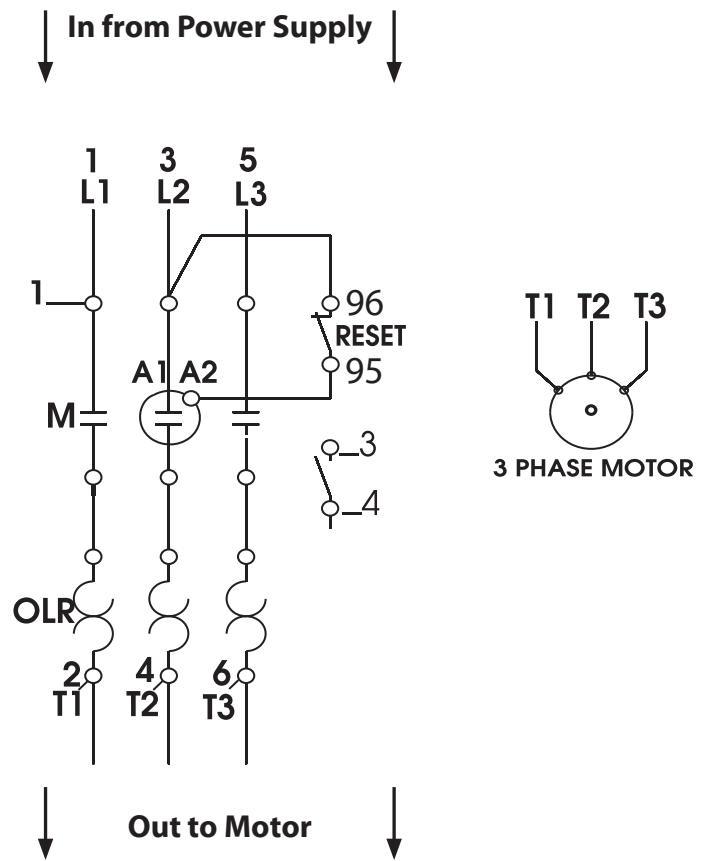

FIG. 4
- 4** Customer will only be required connect the starter to the motor and a power source. If you didn't opt for the remote start option all existing wiring should be left alone. See wiring diagram [FIG 4].